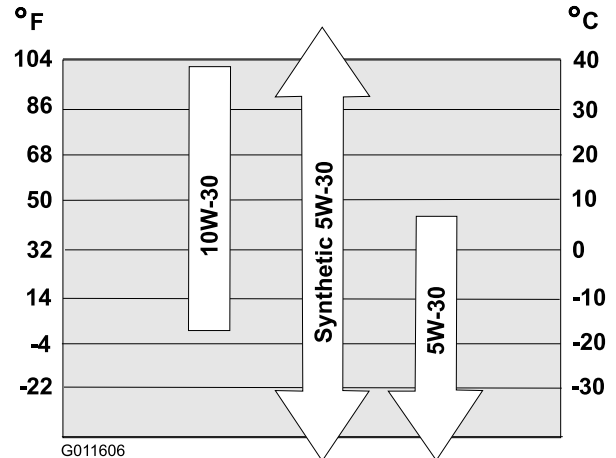

Figure 20
Oil viscosity	Refer to Figure 20 .
Use Figure 20 to select the best oil viscosity for the outdoor temperature range expected:
7. Carefully pour about 3/4 of the engine capacity of oil into the oil-fill tube. Use Figure 20 to select the best oil viscosity for the outdoor temperature range expected: